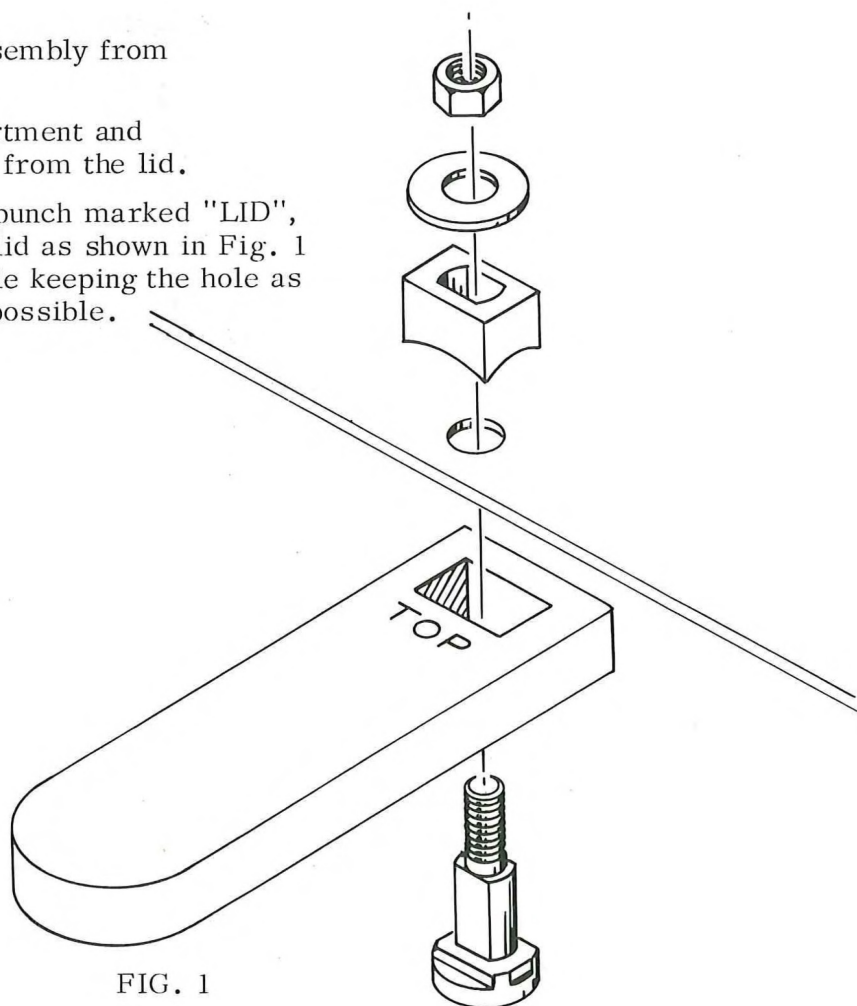

FIG. 1
- 3) Using the smaller chassis punch marked "LID", assemble the punch on the lid as shown in Fig. 1 and punch a rectangular hole keeping the hole as parallel to the lid edge as possible.